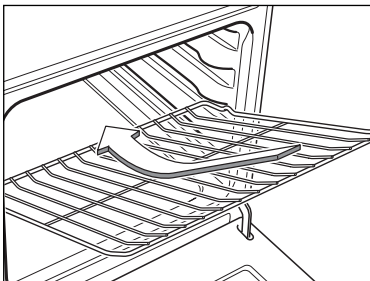

Fig. 28a Correct position of shelves (models with formed runners)
- **In models with formed runners,** slide in the shelves and grill pan as shown in Fig. 28a, with the safety stop notch up and at the back.